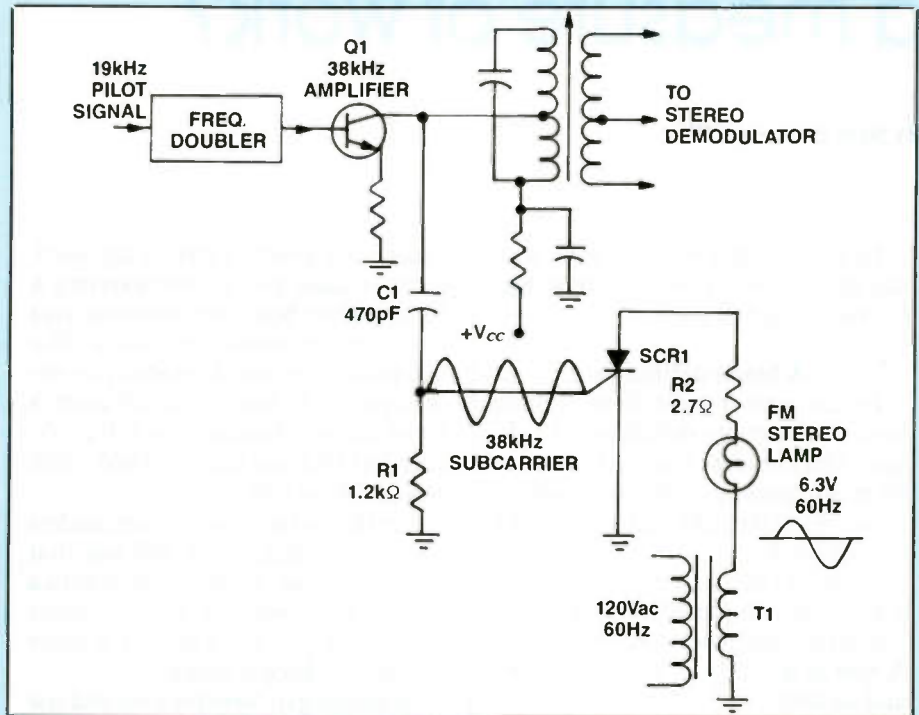

Figure 1
2. The circuit of Figure 1 was given in an article titled "Thyristors from A to Z" by Lambert C. Huneault. The article was in the February 1990 issue of *ES&T*. As explained in the article, if there is an internal (anode/cathode) short in the SCR and the FM stereo lamp will be: